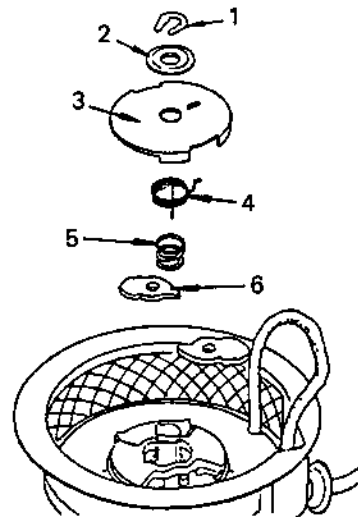

Fig. 69
- 3) When removing, take out the parts in the order of the numbering in Fig. 69.
- 4) When reassembling the parts, follow up in the reverse order to Fig. 69.